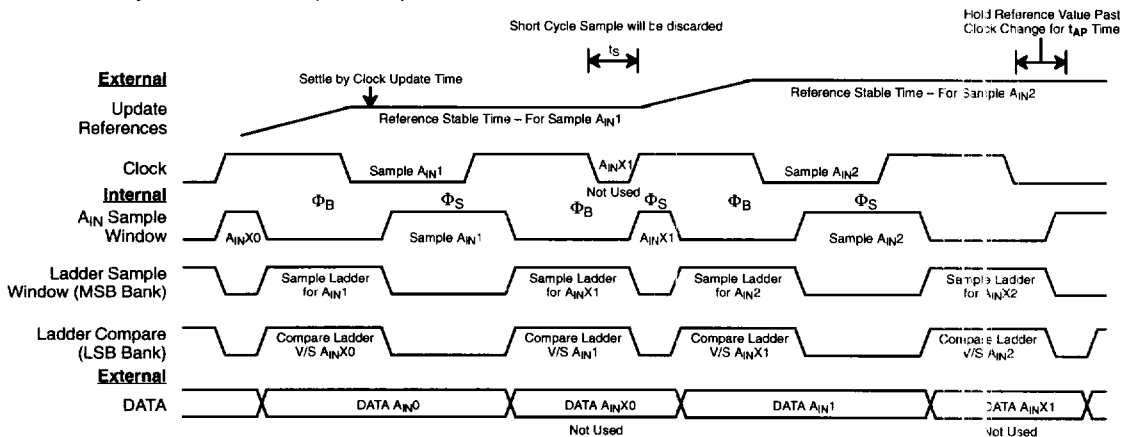

Figure 3. A_{IN} Sampling, Ladder Sampling & Conversion Timing
- ² Tester measures code transition voltages by dithering the voltage of the analog input (V_{IN}). The difference between the measured code width and the ideal value (V_{REF}/1024) is the DNL error (see Figure 3.). The INL error is the maximum distance (in LSBs) from the best fit line to any transition voltage (See Figure 7.).
Figure 3. shows this relationship as a timing chart. A_{IN} sampling, ladder sampling and output data relationships are shown for the general case where the levels which drive the ladder need to change for each sampled A_{IN} time point. The ladder is referenced for both last A_{IN} sample and next A_{IN} sample at the same time. If the ladder's levels change by more than 1 LSB, one of the samples must be discarded. Also note that the clock low period for the discarded A_{IN} can be reduced to the minimum t_S time of 150 ns.